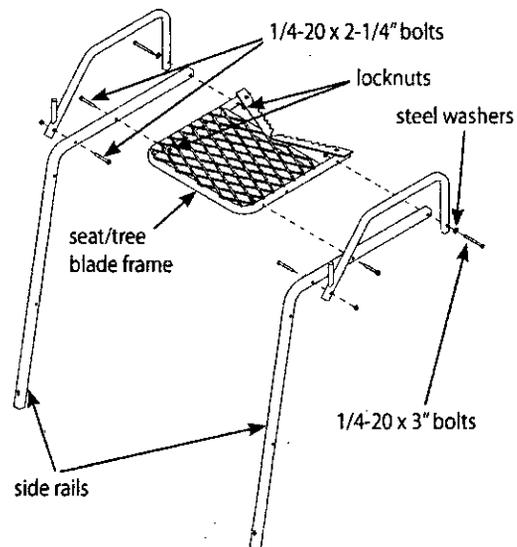

Figure 2
3. Attach the seat/tree blade frame (SL24) and the rear end of armrests (AR12) to the side rails using (2) provided 1/4-20 x 3" bolts, (2) 1/4-20 X 2-1/4" bolts, (4) locknuts and (2) steel washers. **SEE FIGURE 2.**
4. Attach the front end of each armrest to the side rails using (2) provided 1/4-20 x 2-1/4" bolts and locknuts. **SEE FIGURE 2. You must now tighten all nut & bolt assemblies. Be sure not to over tighten or crush tubing when tightening!**